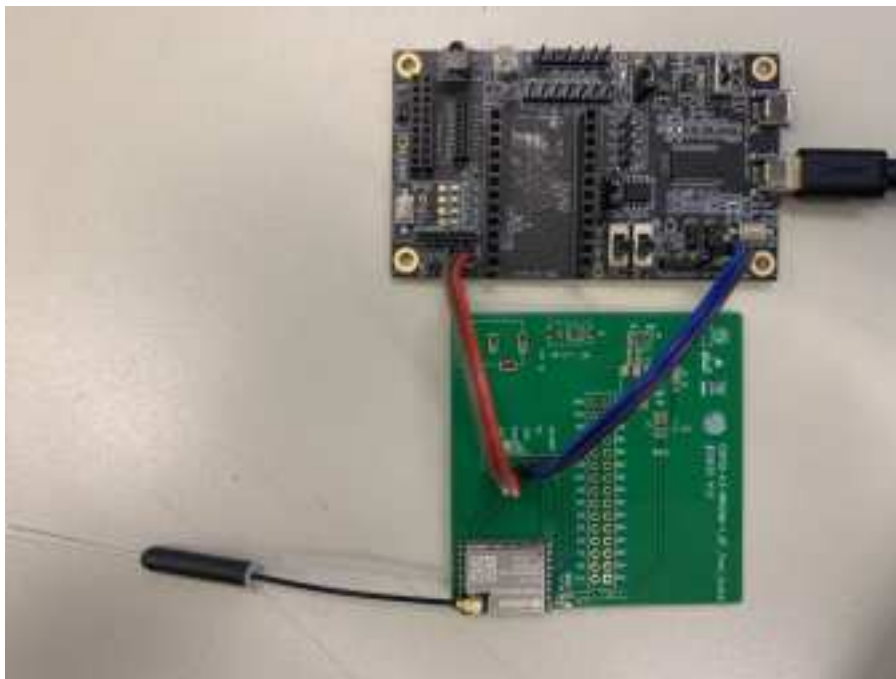

Figure 2: Hardware Connection
1. Solder the ESP8684-WROOM-02UC module to the RF testing board as shown in Figure 2.